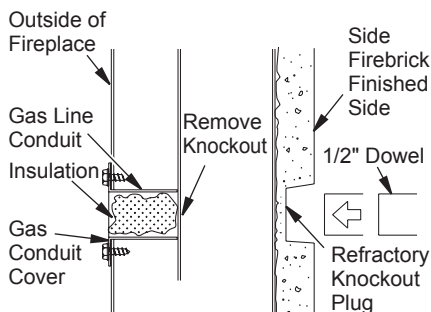

Figure 29 - Gas Line Knockout
1. Remove knockout indentation on refractory or firebrick wall located approximately 2" above refractory hearth floor. Knockout indentation must be firmly tapped with any solid object such as a 1/2" dowel until it is released. Remove fragmented portions of refractory (see Figure 29).